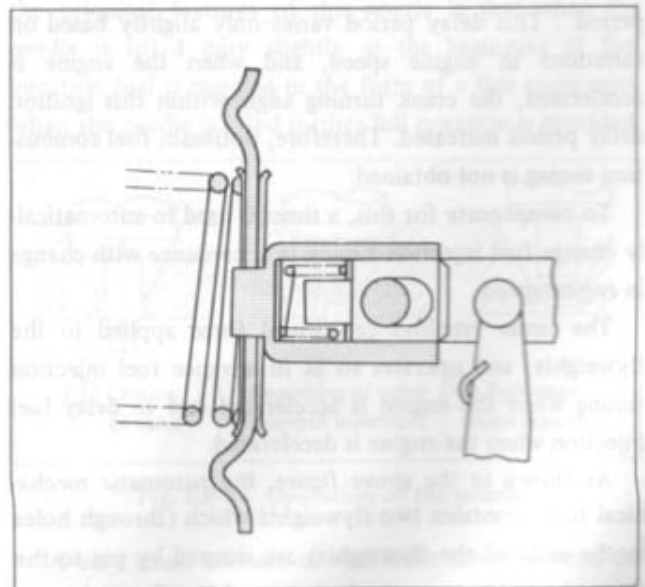

Fig. EF-21 End of the angleich spring operation
3. As the engine is further accelerated, this balance is upset and suction (negative pressure) overcomes the spring force of the governor spring. When this occurs, the angleich spring is released from the stop lever and the governor goes into operation to control the engine at high speed. (See Figure EF-21.) The foregoing is a description of the operation of the angleich-spring mechanism which operates so as to decrease fuel injection in proportion to decrease in intake air at high speed. At low engine speed, the balance spring moves the control rack in the direction of fuel injection decrease to provide increased torque (torque modulation effect) by maintaining a constant balance between fuel injection and the amount of intake air.